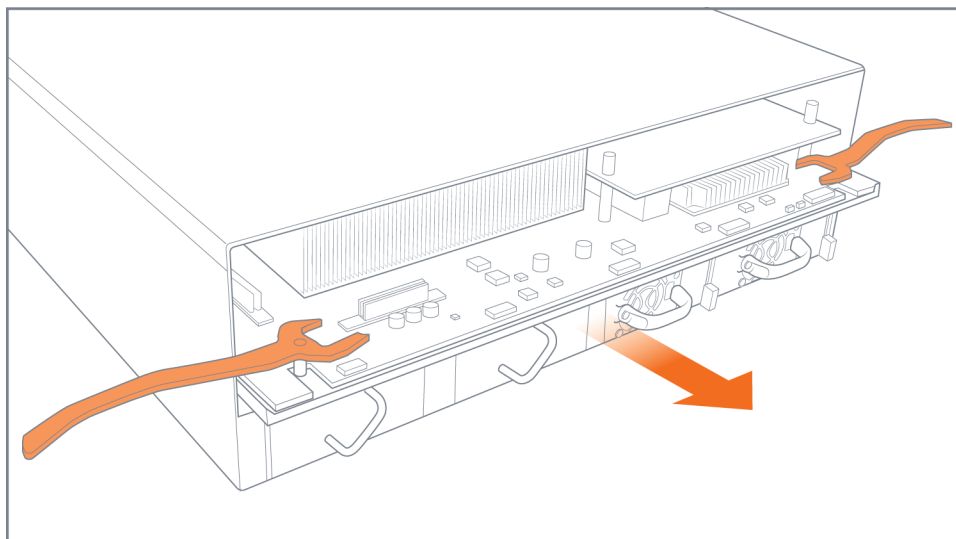

Figure 19 Control Card Removal
5. Pull out the control card. Refer to Figure 19 Control Card Removal.